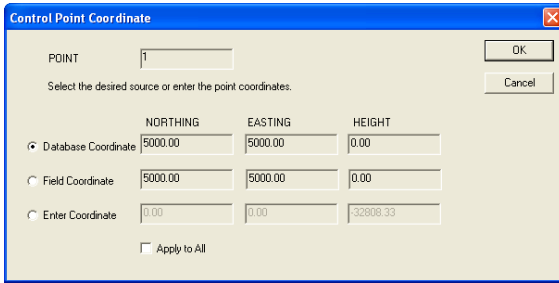

Figure 12-12. Control Point Coordinate
1. Click **Traverse ▶ Adjust**. The *Control Point Coordinate* dialog box appears (Figure 12-12).